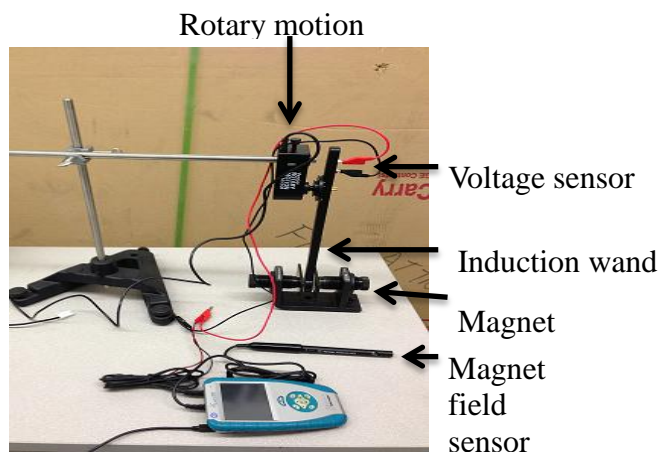

Figure 3. Experimental set up for part I
In this part, the induction wand is swung into the magnetic field. The setup for this part is shown in the Figure 3.
- Connect the voltage sensor terminals to the induction wand. [Make sure you are **NOT** measuring voltage across the load resistor if the banana plug is inserted!]. Drape the voltage sensor wires over the rods as shown in Figure 3 so the wires will not exert any torque on the coil as it swings. Plug the Voltage probe and Rotary Motion Sensor into the Vernier interface which should be connected to a computer.